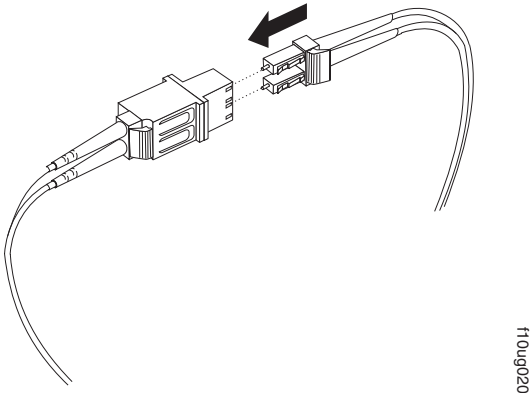

Figure 41. Connecting an LC-LC cable into the LC-SC cable adapter
4. Carefully insert the other end of the LC-LC cable into the LC connector end of the LC-SC cable adapter as shown in Figure 41. Push in the connector until it clicks into place.